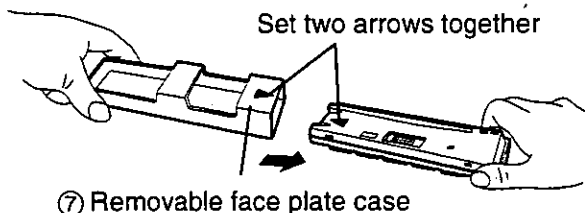

Fig. 3
④ As shown in Fig. 3, insert the removable face plate with the arrow pointing toward the removable face plate case ⑦ until you hear a "click". Keep the removable face plate in the case. Then, you can bring the plate safely.